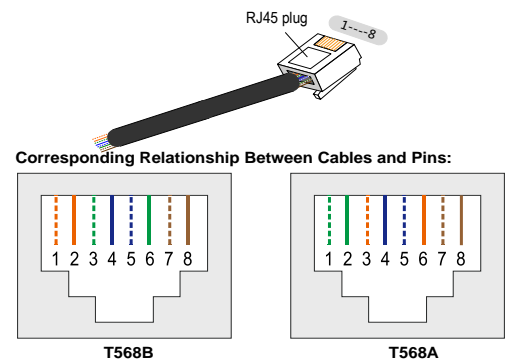

Figure 6 Colour order for the patch Ethernet cable
Step 3 Use the pin configuration stated below for CANH and CANL terminals. Please refer to Figure 6 for configuration of the plug.